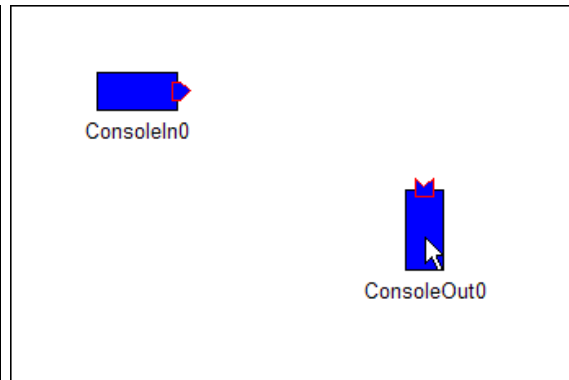

Fig. 4.10: Rotating a component
**Rotating components** A middle click on a component while pressing the “Shift Key” will rotate the component, reorienting its InPorts and OutPorts in the vertical direction. (Figure 4.10).